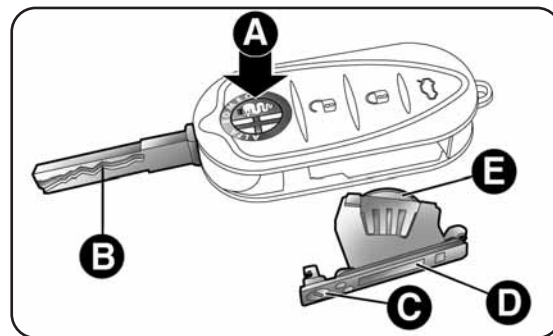

fig. 18
- press A button fig.18 and open out the B metal insert; turn C screw to  using a small point screwdriver;